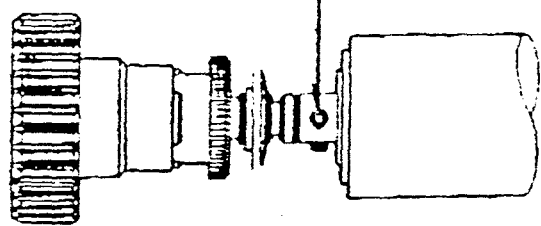

FIG 2.
- 1.2 Loosen 2 grub - screws fixing platen knob to the platen and pull out the platen knob (Fig 2.)